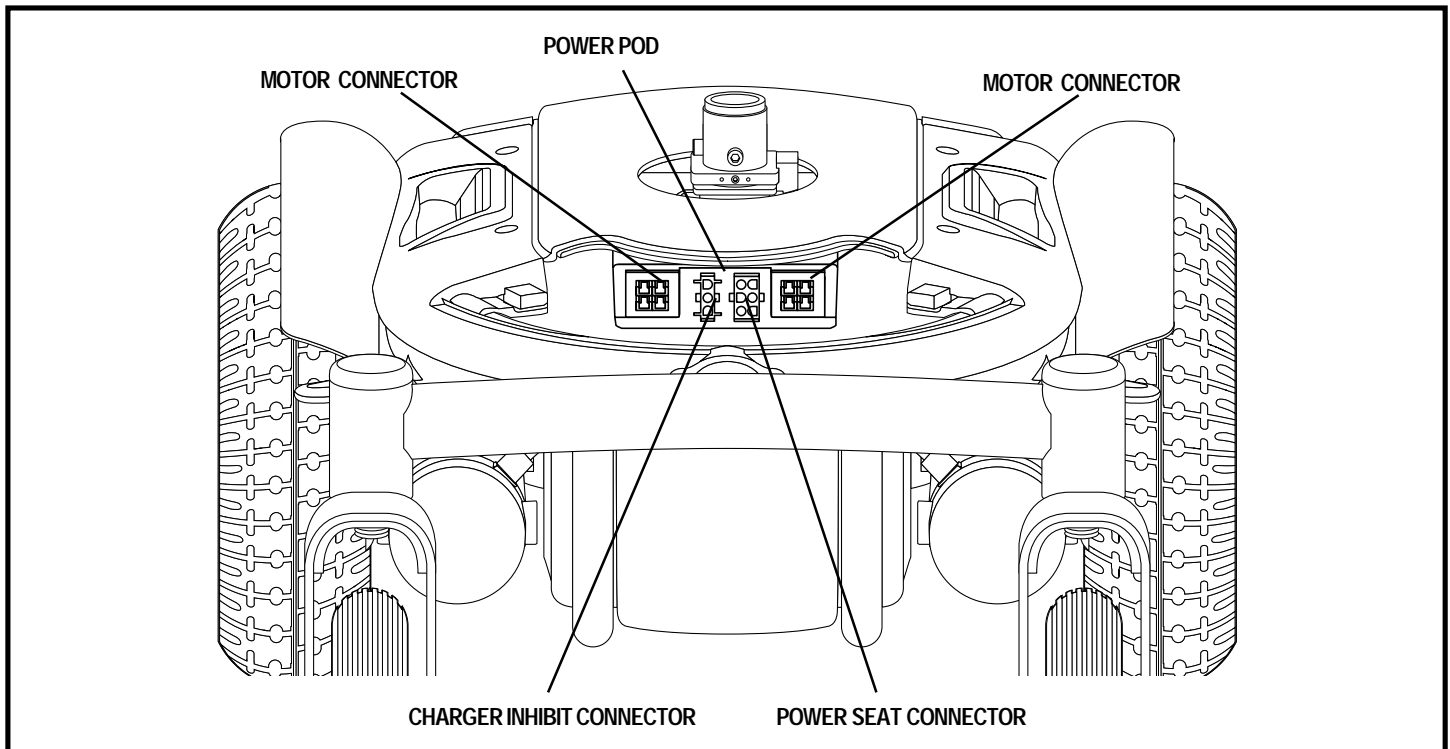

Figure 7. The Jazzy 1143 Ultra Power Pod Assembly
3. Disconnect the controller connector(s) from the power pod. See figure 7.